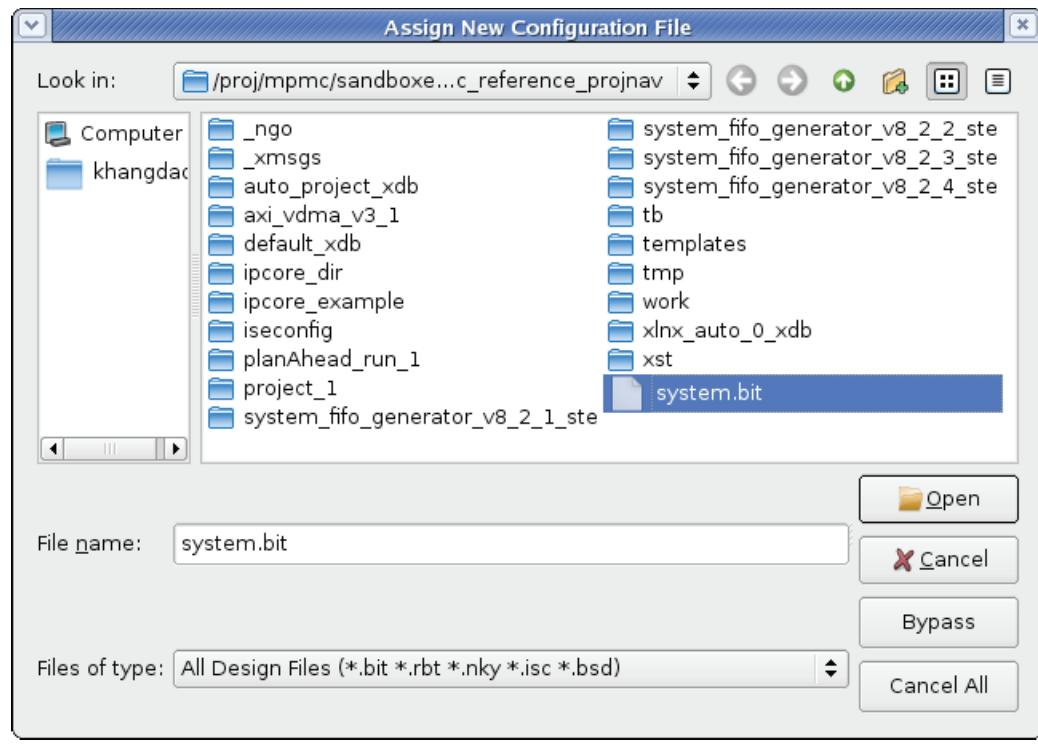

Figure 14: Assign New Configuration File (XC6VLX240T Device)
20. For the XC6VLX240T device, select **system.bit** and click **Open** to load <design\_dir>/projnav/system.bit to configure the FPGA (Figure 14).